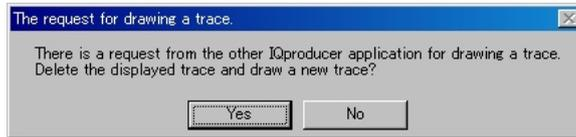

Figure 3.5-4 Confirmation Message
- (1) Set **Clear** for **Quick Add Mode** on the lower-left of the FFT Graph Monitor screen.
- (2) Select **FFT** from the **Simulation** menu or click the  tool button. The confirmation message shown in Figure 3.5-4 below appears: